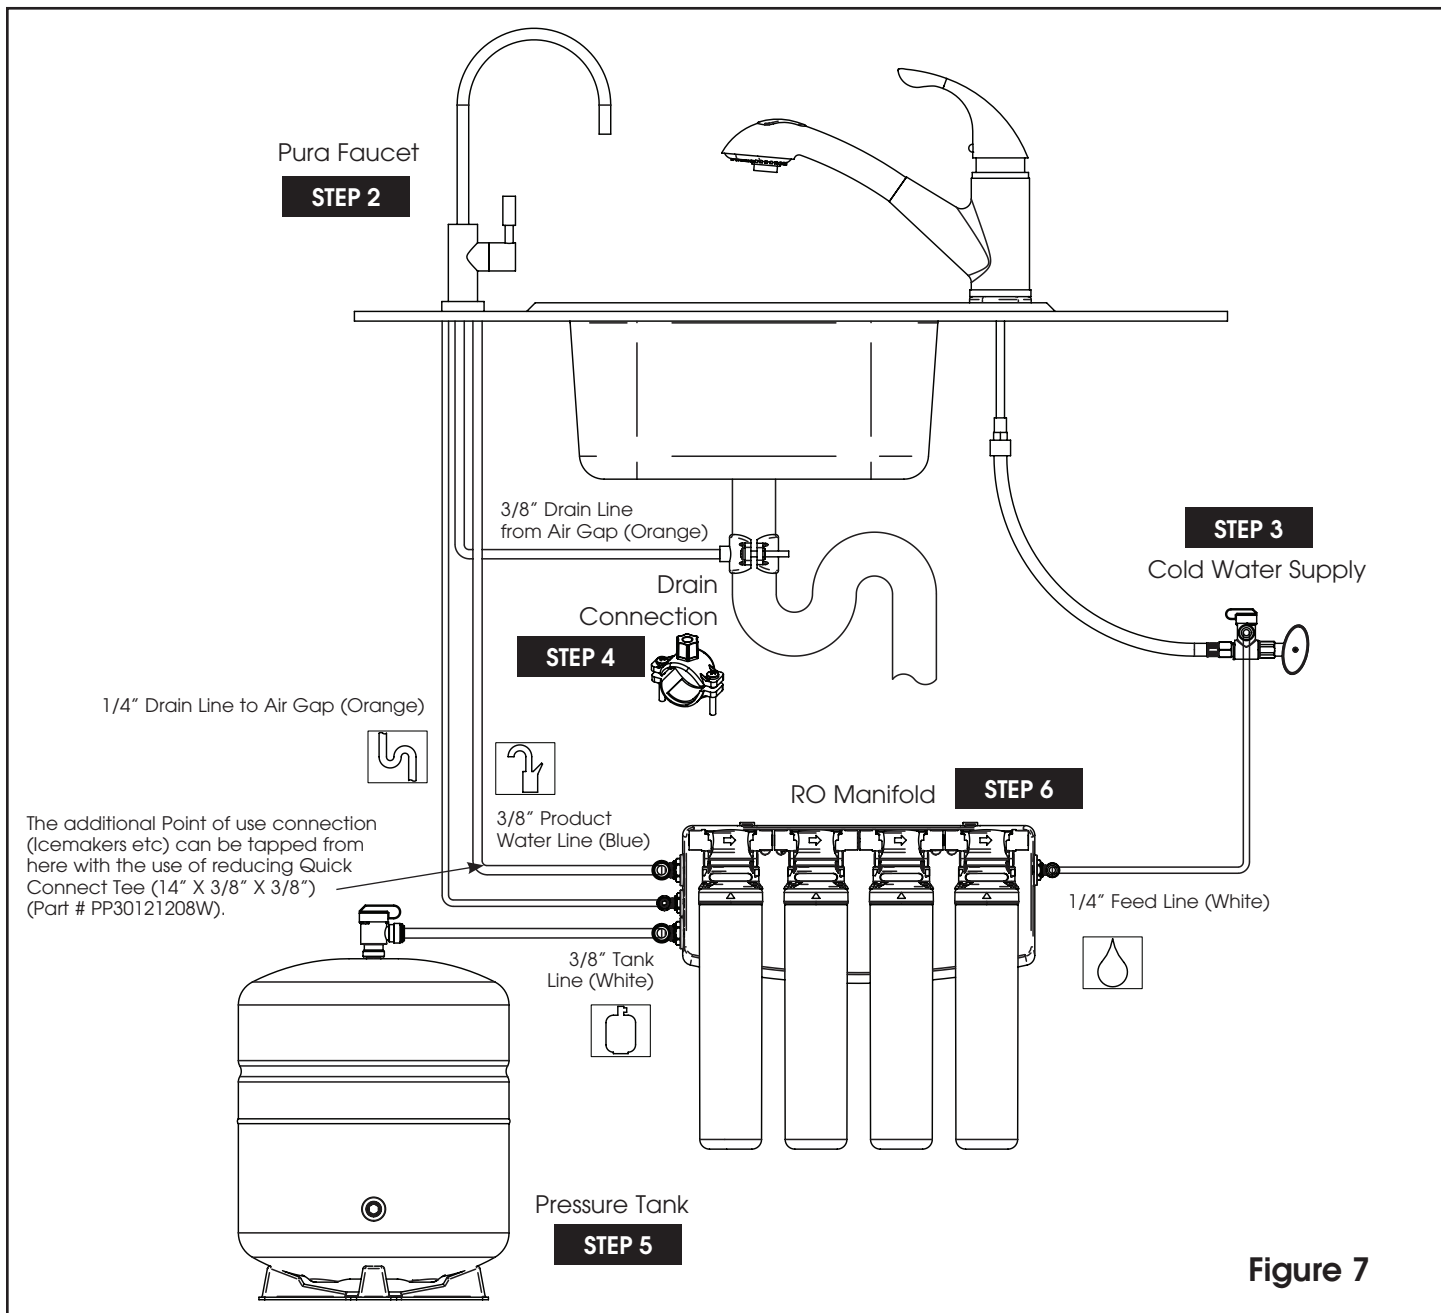

Figure 7
The exact placement of the components will vary by installation. Although shown beneath a sink, it may be installed in a basement, crawl space, or in an adjacent cabinet. Regardless of where the system is installed, the flow sequence described by (figure 7) must be observed.
1. Install the drain saddle valve on to the drain pipe. See figure 7 on page 9 for its location.